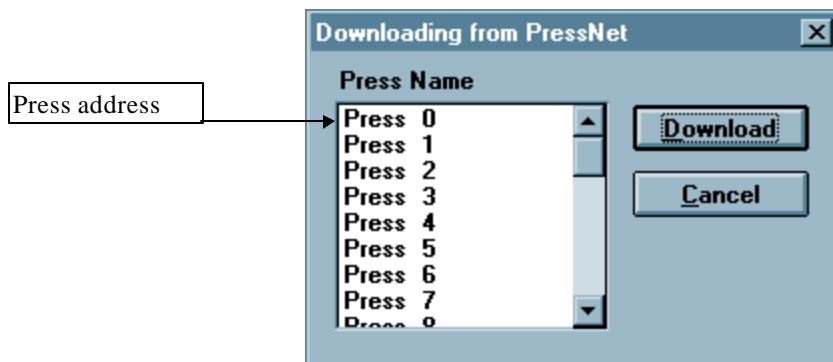

Figure 8: Downloading from PressNet window.
3. Choose a Press address in the Downloading from PressNet window. (See Fig. 8).